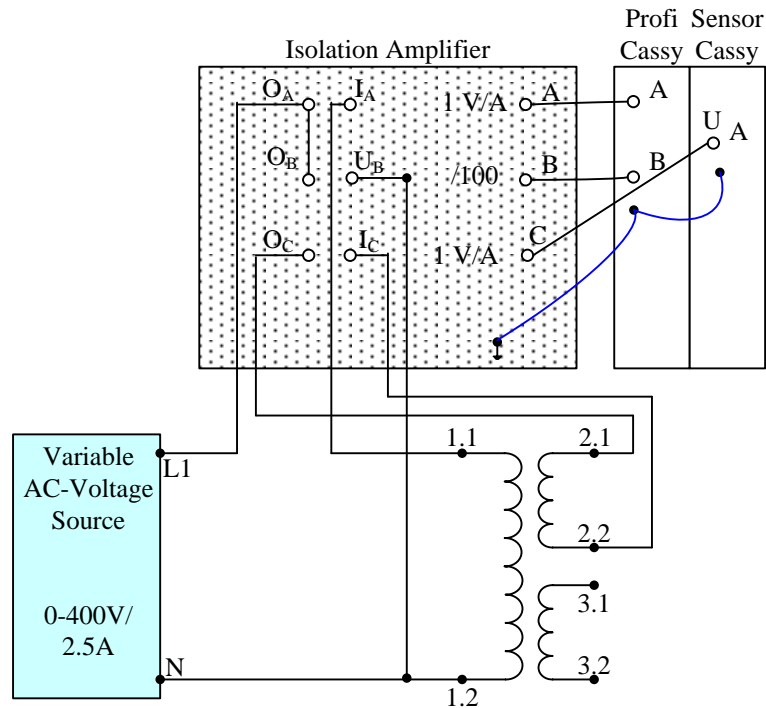

Figure 3 Circuit for measuring short-circuit voltage
12. Connect the circuit as shown in Fig. 3.